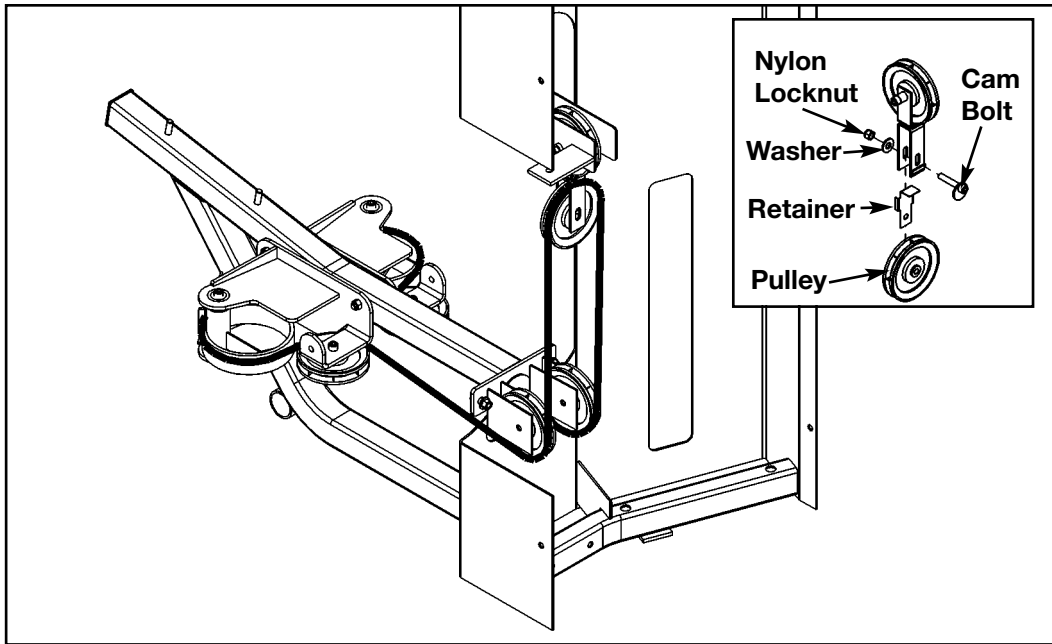

Figure 2
3. Check cam cable (see step 3A and Figure 2).
A. Adjust cam bolt (if necessary) to remove excess slack. See Figure 2.